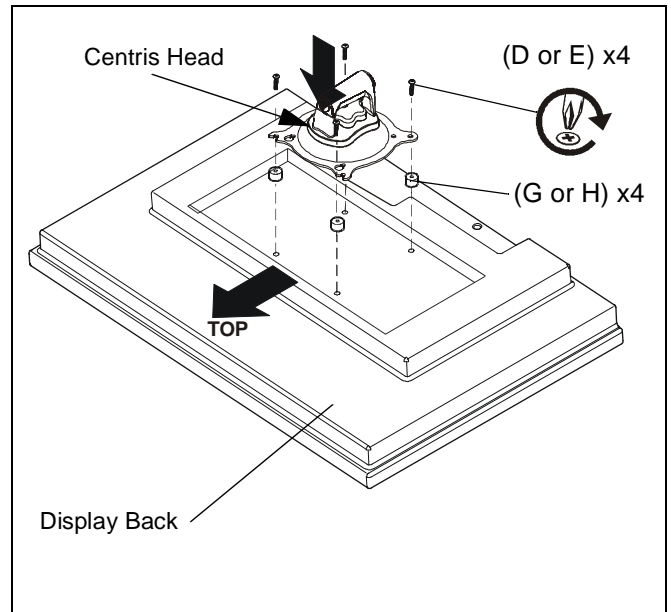

Figure 4
4. Secure display to Centris head using four Phillips pan head machine screws (D or E) . (See Figure 4)